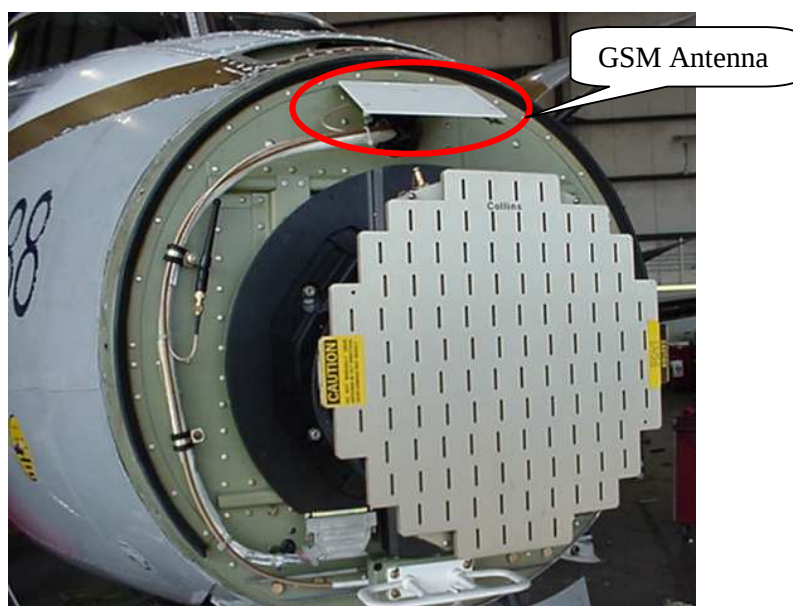

Figure B- 10: GSM Antenna Location
- ☐ 020 Locate the GSM antenna mounting bracket (DTU-D-106-1) as shown in Figure B- 10. Using the bracket as a template mark and drill two mounting holes to accommodate a #10 screw.